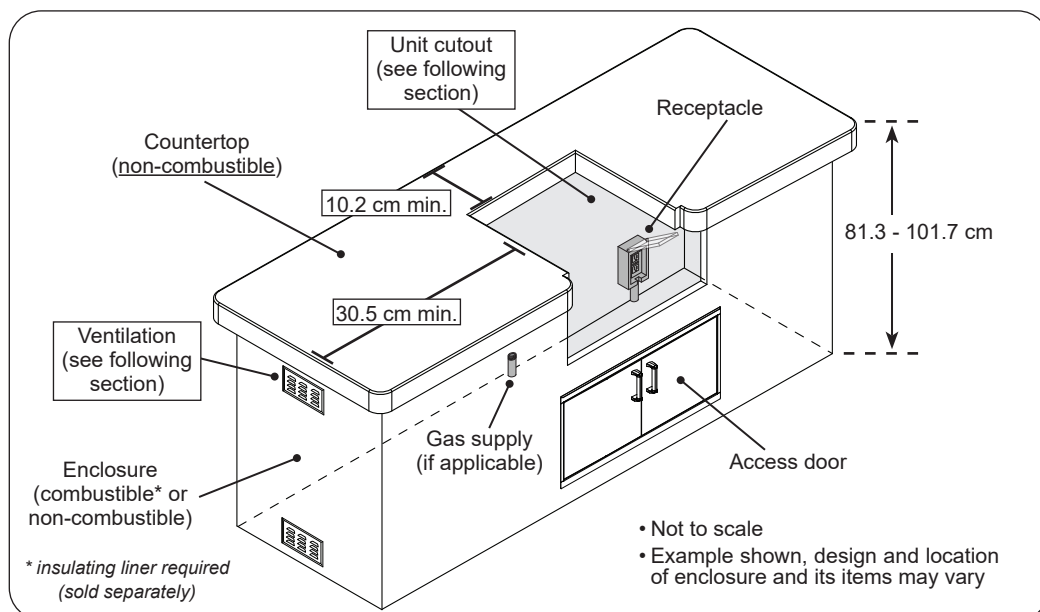

Fig. 6-1 Enclosure specifications
The enclosure can be constructed according to your individual preference, while following all guidelines found in this manual. **The enclosure MUST (see Fig. 6-1):**
- have the minimum dimensions specified in Fig. 6-1
- meet all requirements found in Fig. 6-1 and the following sections